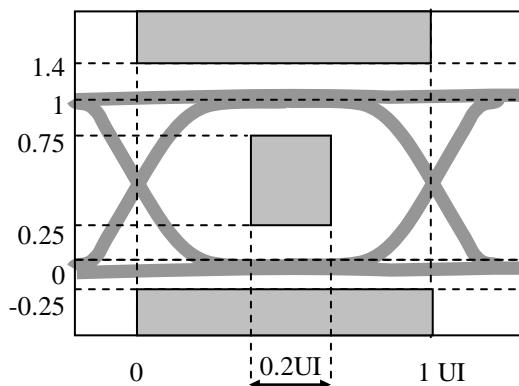
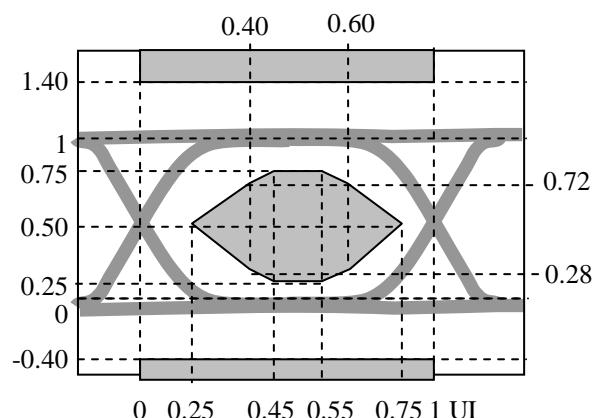

Fig. 6.1.1 MASK for GR-253/G.691
Fig. 6.1.2 MASK for IEEE802.3ae
| Eye Mask *1 | - | GR-253-CORE / ITU-T G.691 | | | - | Fig.6.1.1 |
| | | IEEE802.3ae | | | - | 10.3Gbps, Fig.6.1.2 |
*1 : Eye mask compliance is shown in Fig.6.1.1 and Fig.6.1.2.